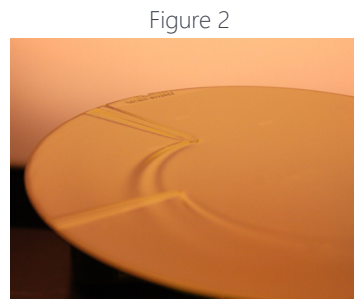

Figure 2
- The bright light reveals a resist striation from two separate particles that were on the wafer prior to spin coat (Figure 2).